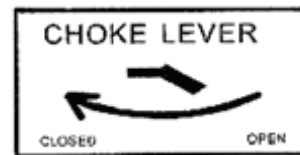

Figure 13- Pull choke out for closed position.
5. Move the choke lever to the “closed” position (see figure 13).